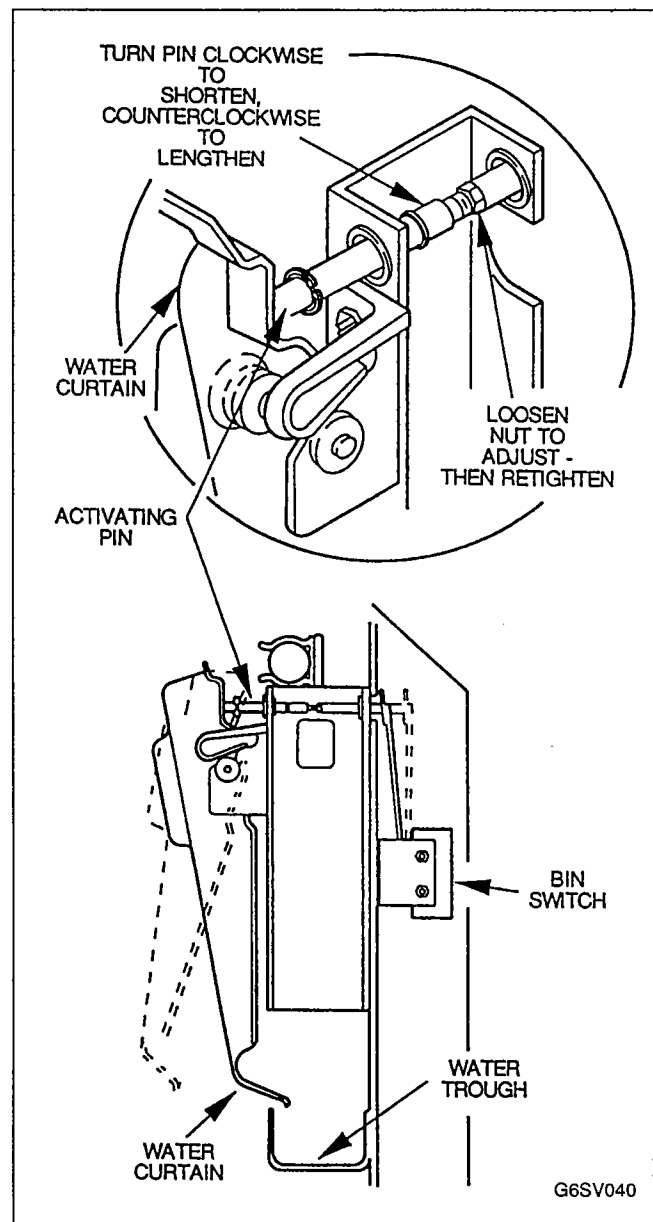

FIGURE 21. BIN SWITCH ACTIVATING PIN ADJUSTMENT
1. Pull water curtain away from evaporator until ice machine shuts off, Figure 21.
4. Bin switch pin adjustment (see Figure 21):